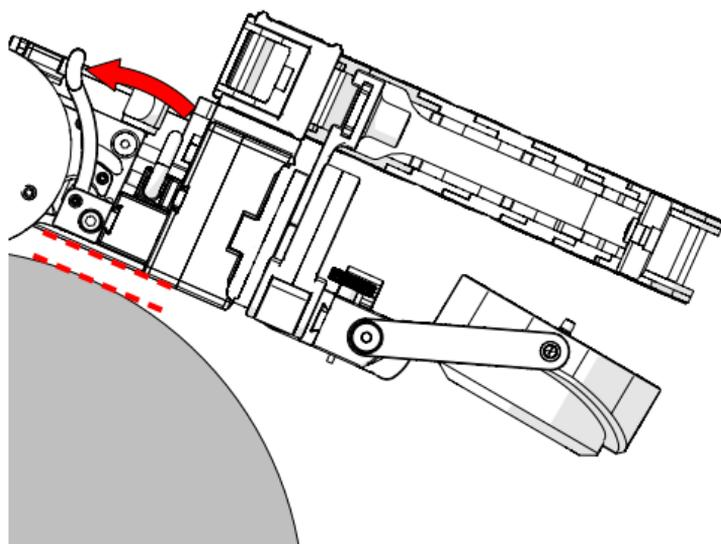

Fig. 132 - Parallel with scan surface
4. Align the raster arm parallel with the tangent of the scan surface (Fig. 132).
5. Engage the swivel mount levers to hold the position of the raster arm (Fig. 132).